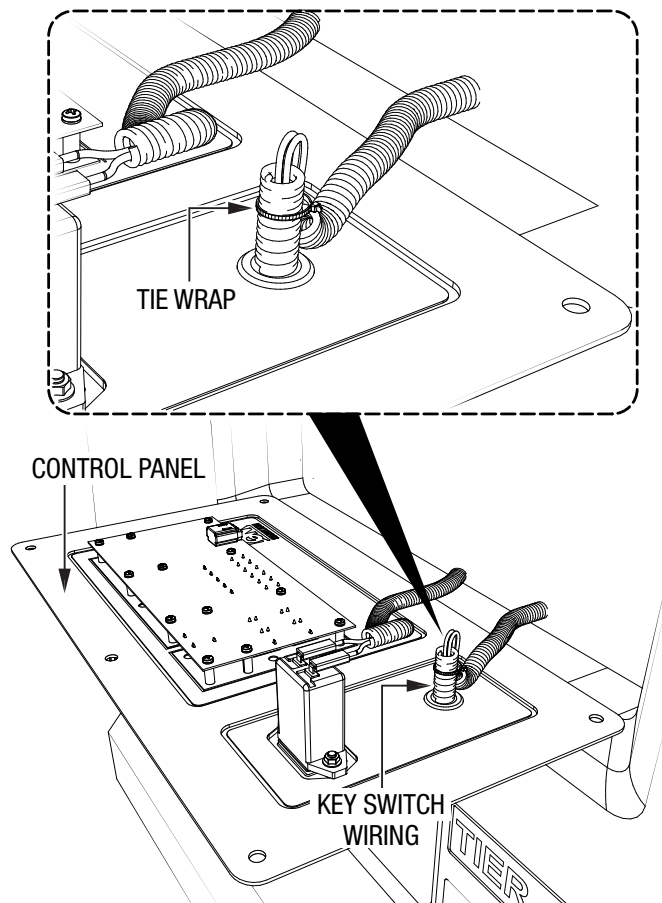

Figure 4. Bundle and Secure Key Switch Wiring
2. Locate the soldered key switch connection and bundle the key switch wires together (Figure 4). Secure the bundled wires to the key switch body with a tie wrap.